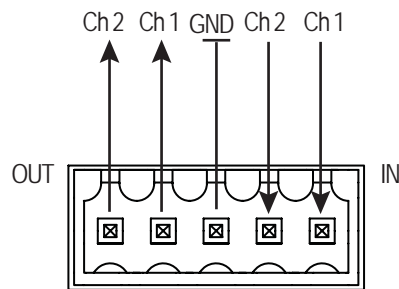

Figure 2-4
2. Connect the other end of this cable to the front panel data terminal block connector on the LBO-SV-AD-T (see Figure 2-4).